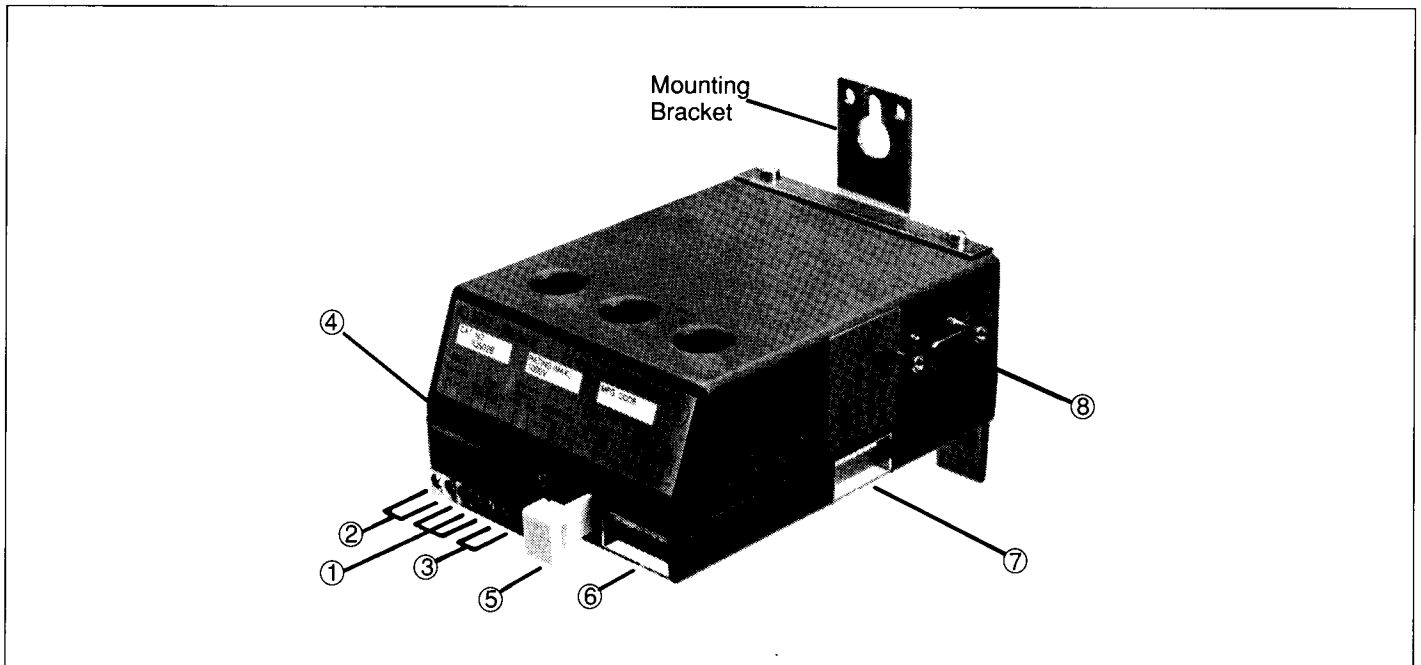

Fig. 1 IQ502 Base Relay
Each IQ-500 relay is a three-pole, block type device (See Figure 1) with a Form C trip relay (1), and an isolated annunciator (alarm) relay (2). Located at the front of the relay are the control power terminals (3), a status LED (4), a reset button (5), and an eight-position DIP switch marked DIP 1 (6) used to set the overload relay class, reset method, and the current (trip) rating of the relay. On the side of the relay there is a second eight-position DIP switch (7). This latter DIP switch (marked DIP 2) selects the power circuit frequency to be monitored (50 or 60 hertz), auxiliary-trip reset time, phase-unbalance level, ground-fault trip level and ground-fault trip delay. A receptacle (8) for connection to a communications module is adjacent to this DIP switch (DIP 2).